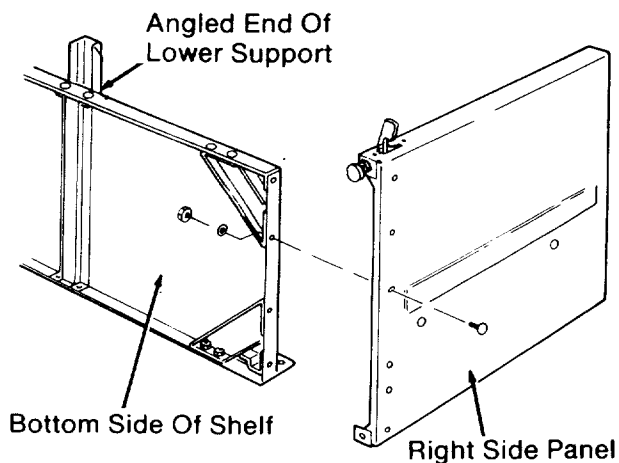

Fig. 32
4. Place the *right side panel* on the right side of the *shelf*. The *foot assembly* should be on the inside of the *cabinet*. (Figure 32)
5. Put bolts through the four holes along the bottom edge of the *right side panel*. Put a lockwasher and hex nut on each bolt and tighten using a 7/16 inch wrench or socket. (Figure 32)